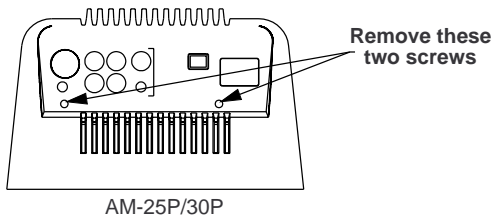

Figure 3. Top Cover Screw Location
1.1 Remove the two screws indicated in Figure 3.